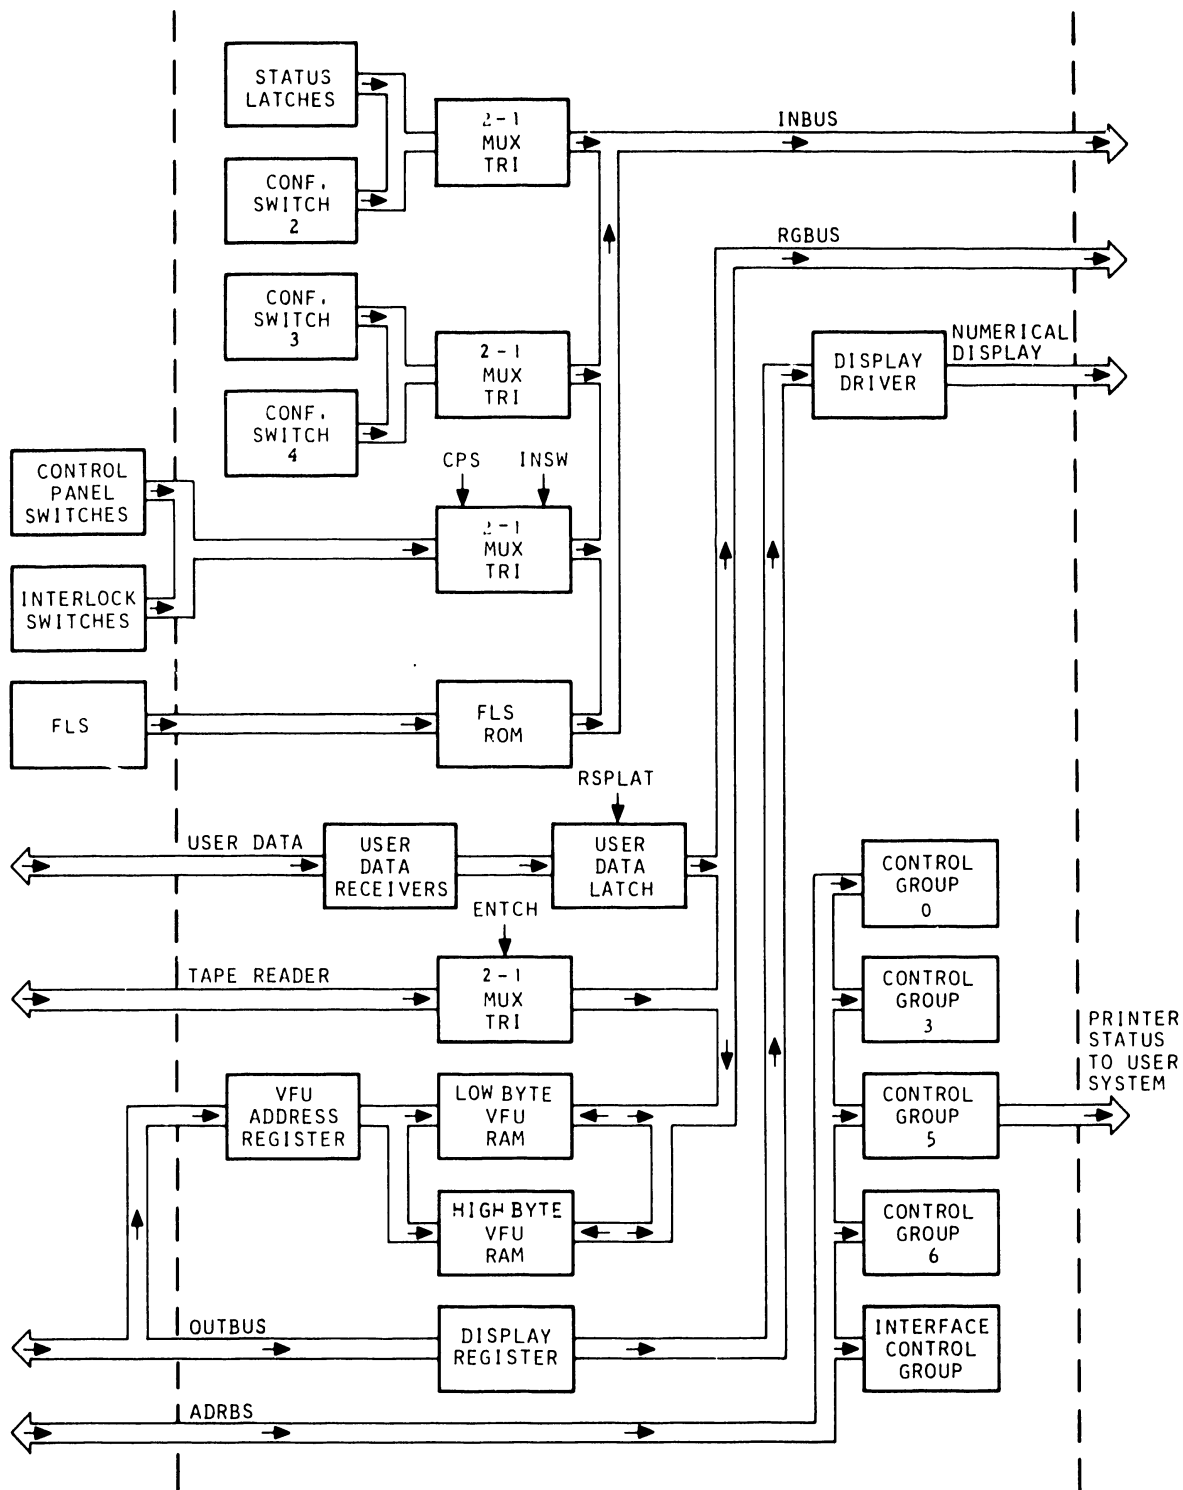

Figure 2-17. Short Line Interface CCA Block Diagram
2. Operational Description - The functions of the Interface CCA may be divided into two (2) major areas --- user printer data transfer and interface processor data transfer. (See figure 2-17.) With the exception of the hardwired CLKFLT*, HOT*, and 5VFLT*, the interface operates under processor control.